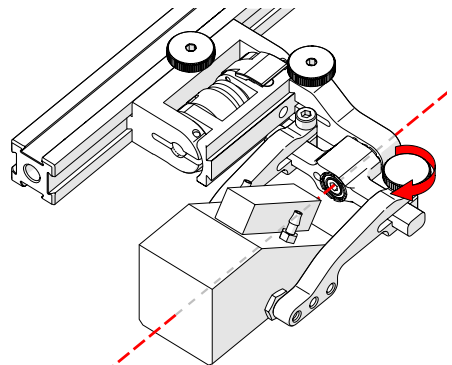

Fig. 41 - Pinch wedge with arm
10. Tighten the probe holder arm adjustment knob (Fig. 41).